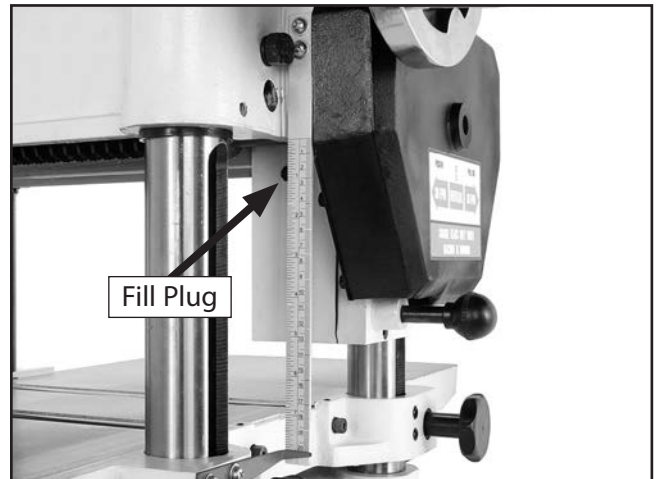

Figure 20. Gearbox fill plug.
21. Wipe dirt from the gearbox fill plug and remove it (see **Figure 20**).